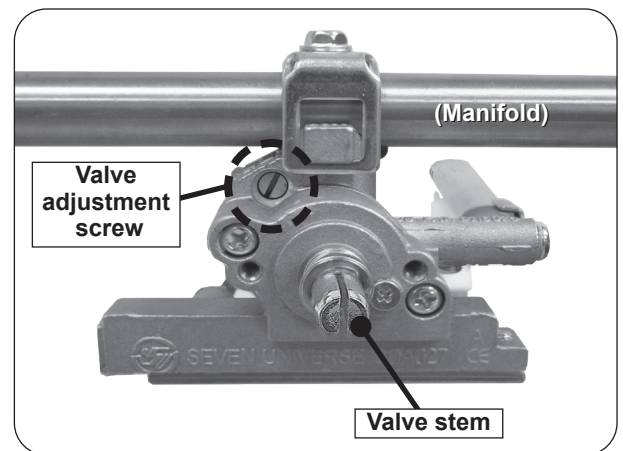

Fig. 39-1 Valve adjustment screw location
5. Locate the FLATHEAD adjustment screw found above the valve stem and below the manifold (see Fig. 39-1).